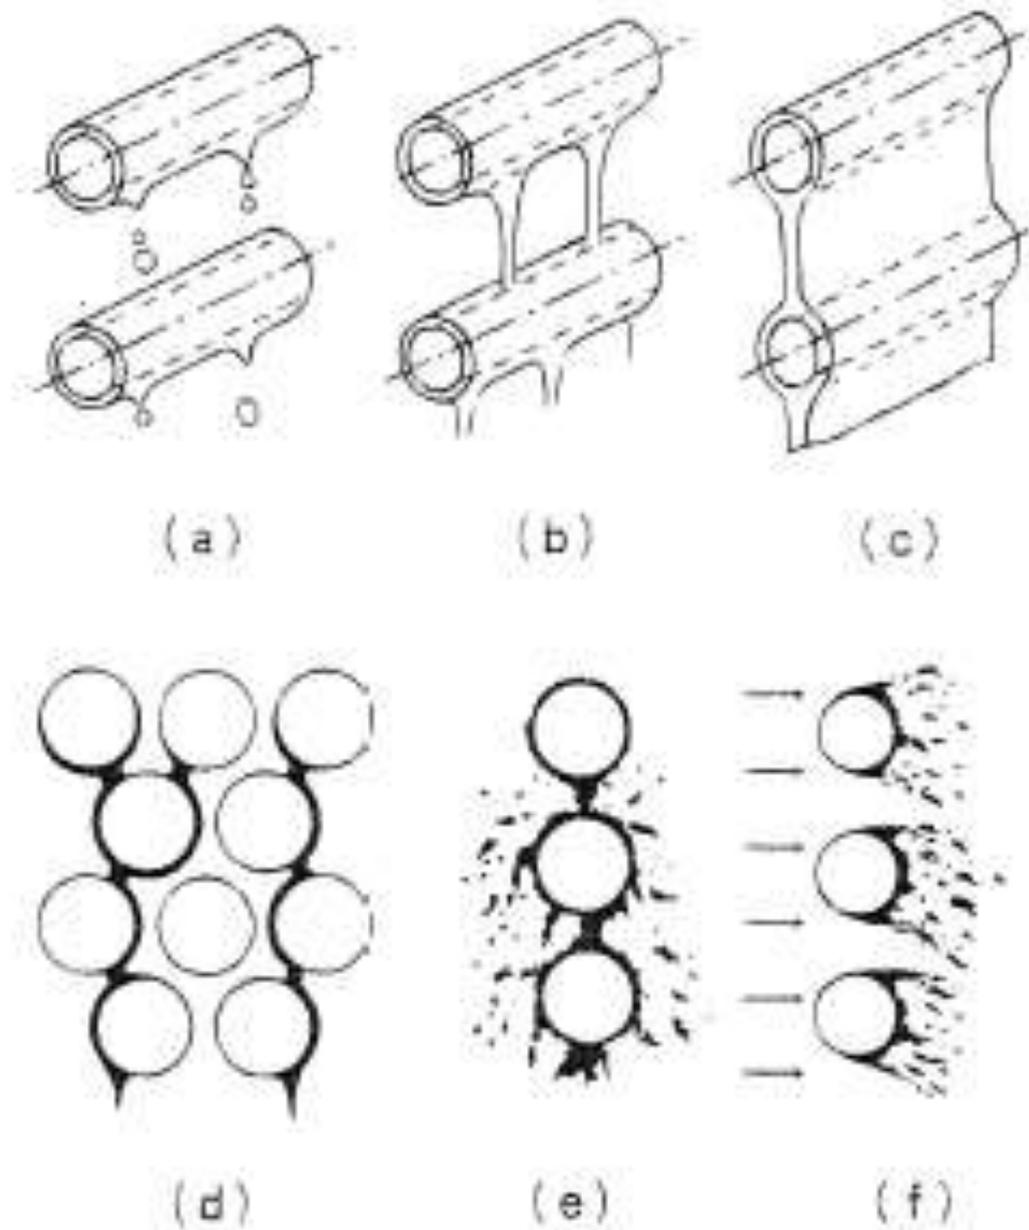

Figure 1. Modes of condensate inundation in horizontal tube banks.
- The condensate impinging on the lower tube causes splashing, ripples and turbulence on the condensate film (Figure 1e). At high vapor velocities, the condensate leaving the tube is disintegrated into small drops and impinges on the other tubes (Figure 1f). A wide variety of condensate drainage mode shown in Figure 1 results in a wide breadth of experimental data regarding the effect of condensate inundation.